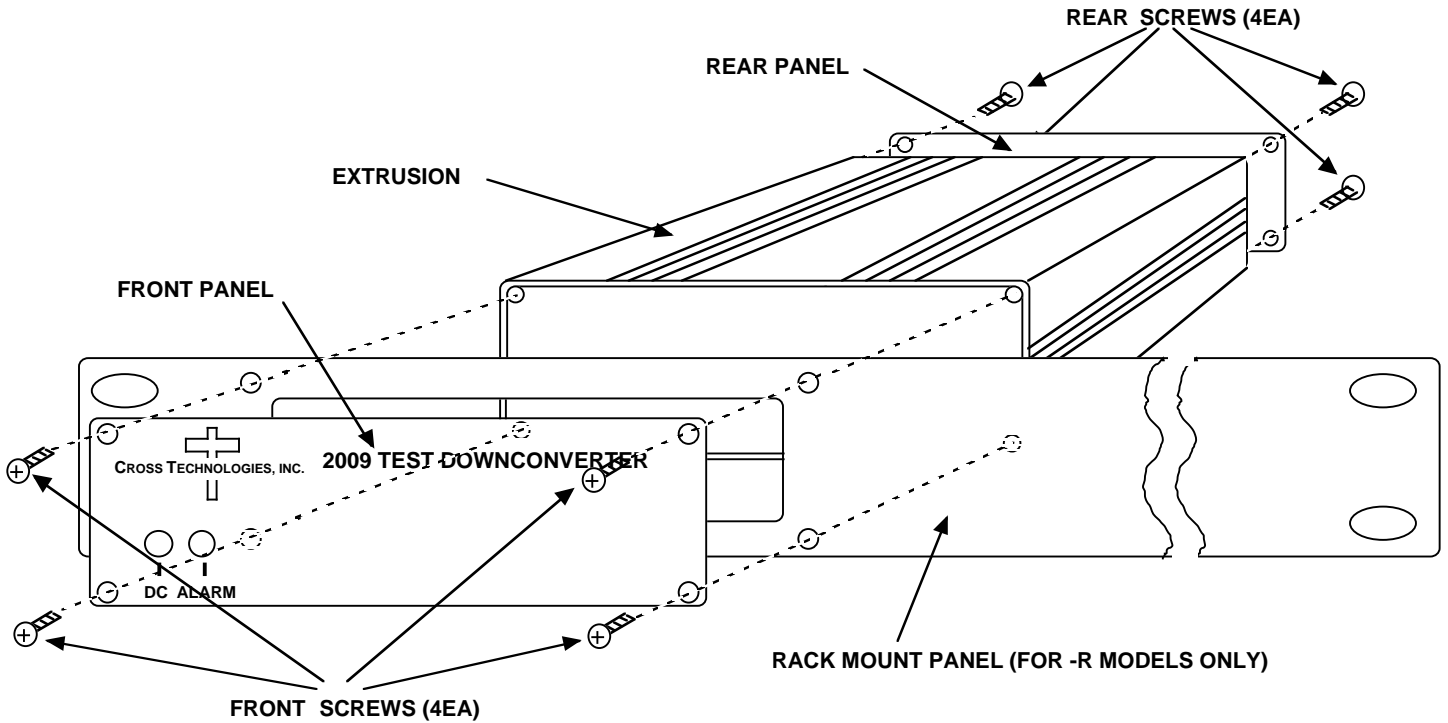

FIGURE 2.1 Model 2009-140 Assembly (-R option shown)
The 2009-140 is packaged in an aluminum extrusion. The **-R option** is mounted on a 1 3/4" X 19" panel that can be mounted to a rack using the 4 holes at the ends (See Figure 2.1).
2. Remove four (4) **rear panel screws** (see Figure 2.1).
5. Install four (4) **rear panel screws**.